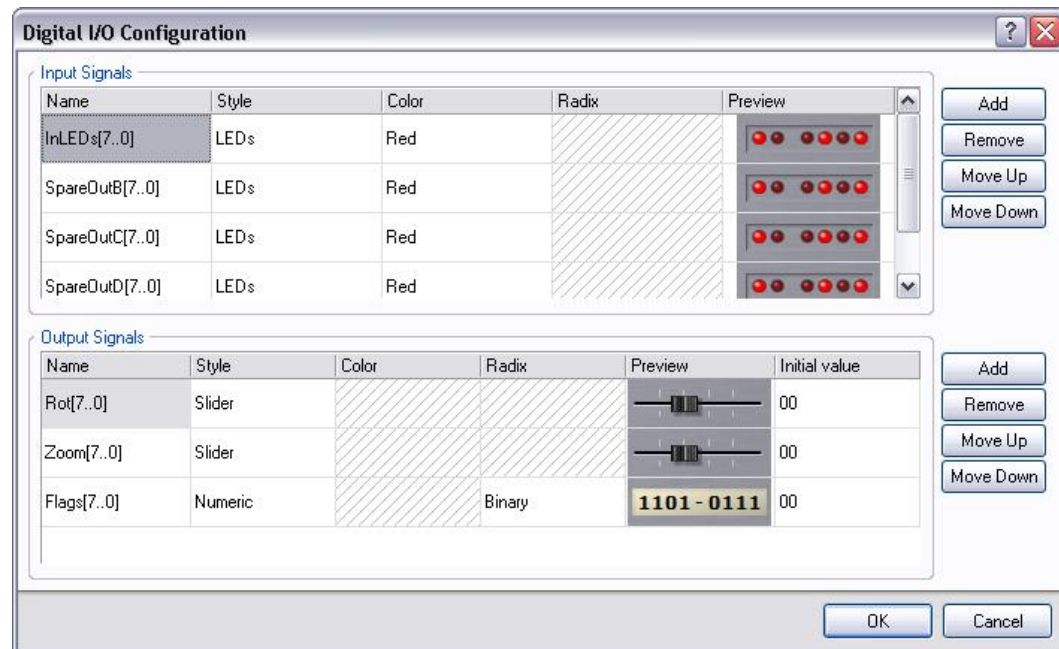

Figure 44. Digital IO component configured for the design
2. Right click this component and select **Configure U11 (DIGITAL_IO)...** Configure the component as it appears in Figure 44.